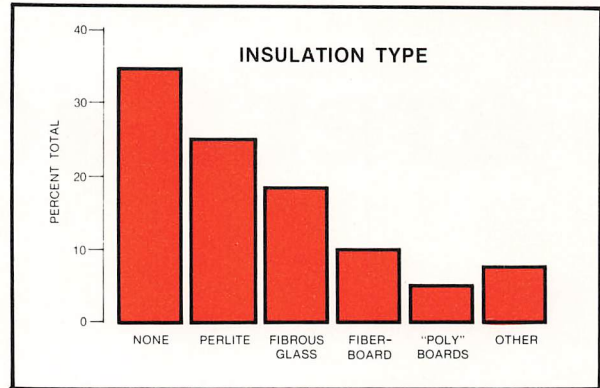

FIG. 2
- Figure 2 - This graph displays the same sort of information regarding the distribution of insulation types. The interesting item here is the fact that some 35% of construction does not have added insulation.